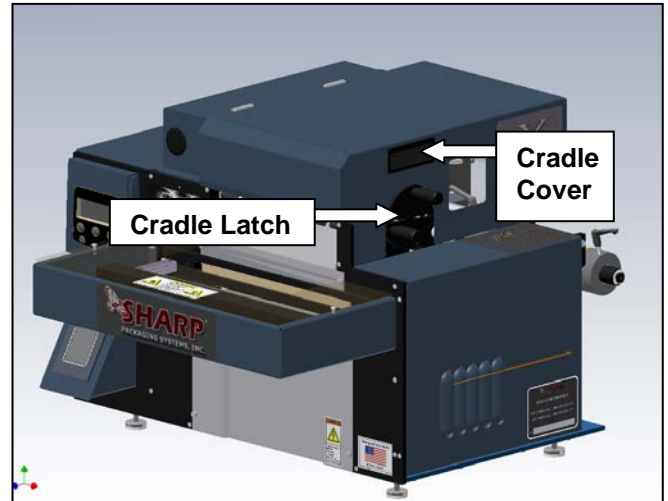

Figure 2-1. Opening the Printhead Cradle
1. With power removed from the machine, release the cradle latch to grant access to the printhead and the rubber rollers on the film feed assembly. Also, open the printhead cradle cover (Figure 2-1).